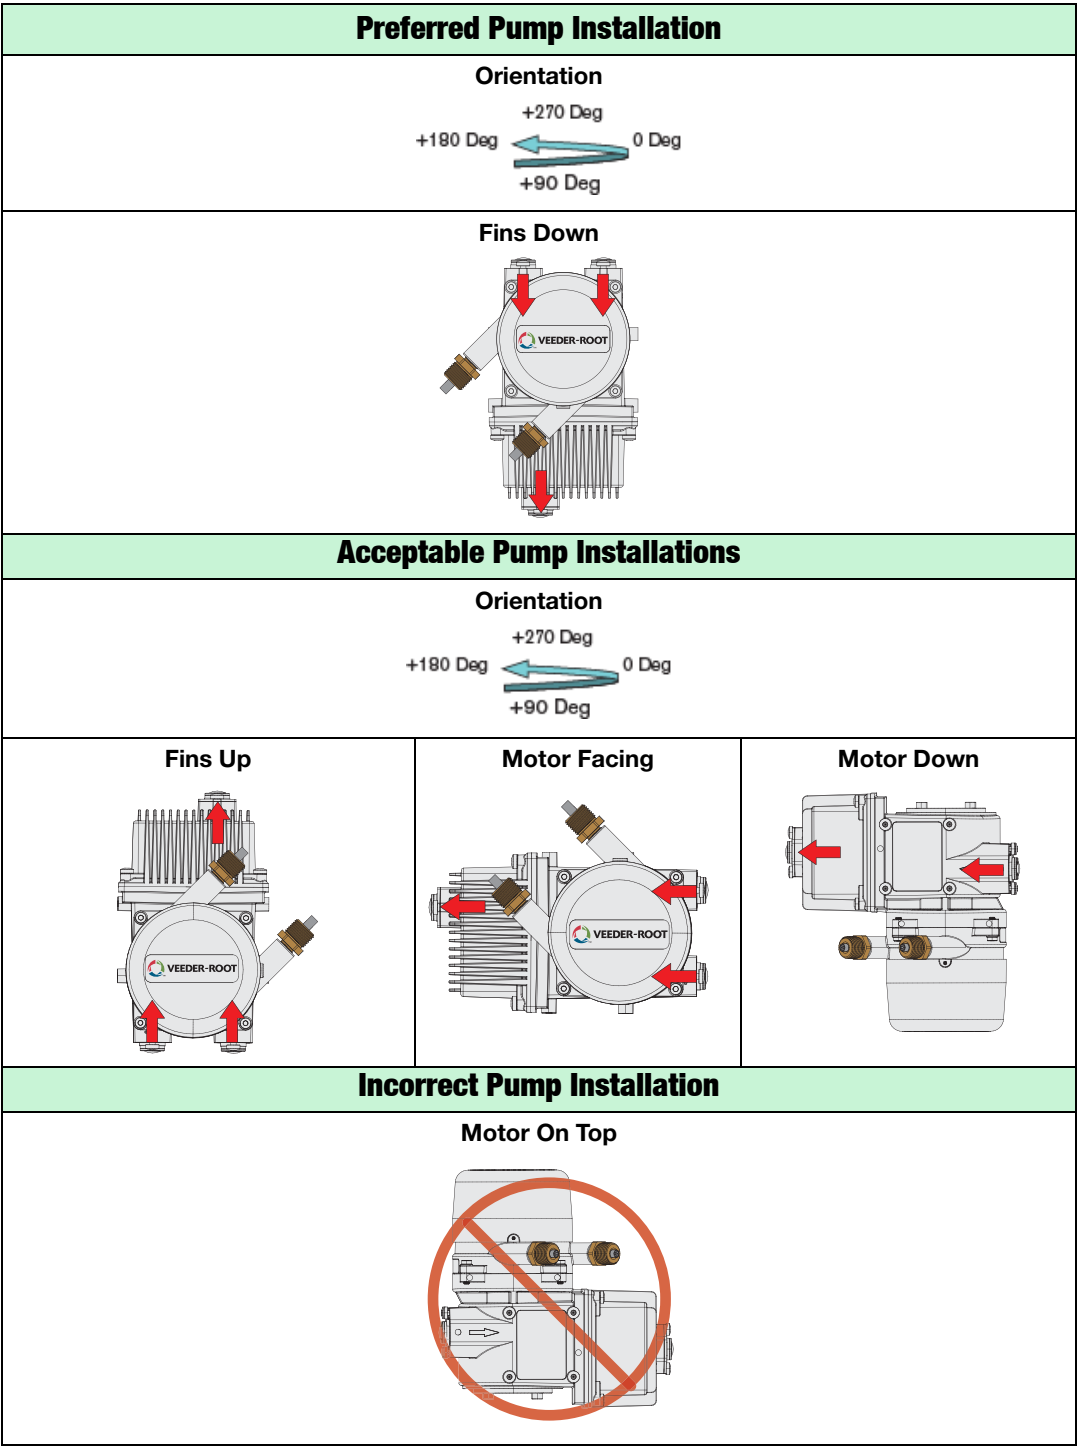

Figure 6. VaporTEK Pump Installation Orientations
3. Ensure correct orientation of the pump, suction ports and discharge ports prior to installing in the dispenser. See Figure 6 for allowable VaporTEK Pump orientations (red arrows indicate direction of flow). Also ensure the electrical cables of the VaporTEK Pump's location will reach the VaporTEK Controller installed in the electronic cabinet of the dispenser (Unclassified Area).